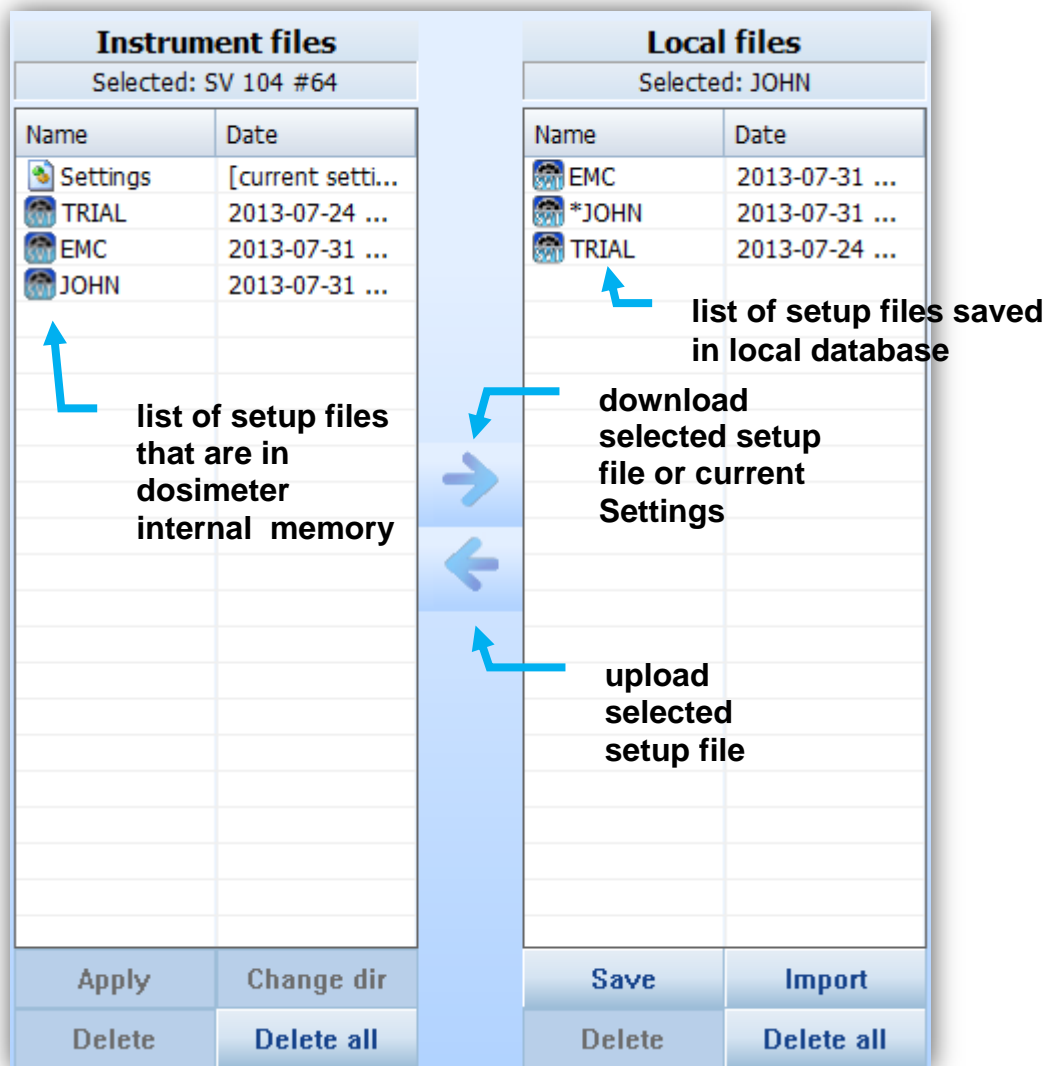

Figure 5-5 Setup files manager panel
1. Select the **“Settings”** row position in left side panel named **“Instrument files”** (Figure 5-5)
2. Click the right arrow pictogram to download instrument **“Settings”** configuration setup to **“Local files”** right side panel (Figure 5-5)
5. Once configured, come back to setups file manager (Figure 5-5) and click the just edited **“Settings”** in **“Local files”** panel
6. Next click the **“Save”** button in bottom area of the panel (Figure 5-5)